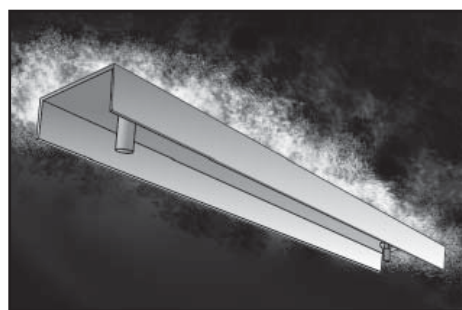

Figure 2
7. Use a putty knife, scraper or wire wheel to remove the majority of the undercoating in the area where the new seat pedestal C-channel support brackets are to be installed. Avoid contact with any wire harnesses. See Figure 2.